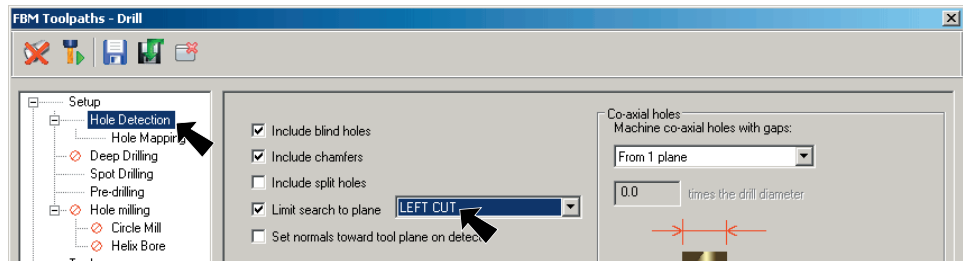

Fig. 5
Step 2. Select **Hole Detection** from the tree control and set **Limit search to plane** to **LEFT CUT**, Fig. 5.